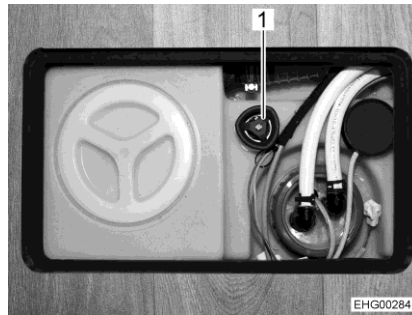

Fig. 106 Rotary handle (water tank)
- Turn the rotary handle (Fig. 106,1) on the water tank in a clockwise direction as far as it will go.
- Turn the rotary handle (Fig. 106,1) on the water tank in an anticlockwise direction up to the first catch. Excess water will drain away leaving approx. 20 litres in the tank.
- Turn the rotary handle (Fig. 106,1) on the water tank in an anticlockwise direction as far as possible beyond the resistance to fully open the drainage opening.